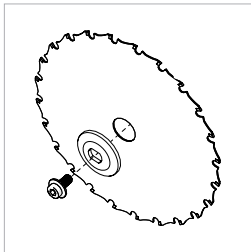

Fig. 20b
- Install the outer blade flange and flange bolt. **(Fig. 20b)**